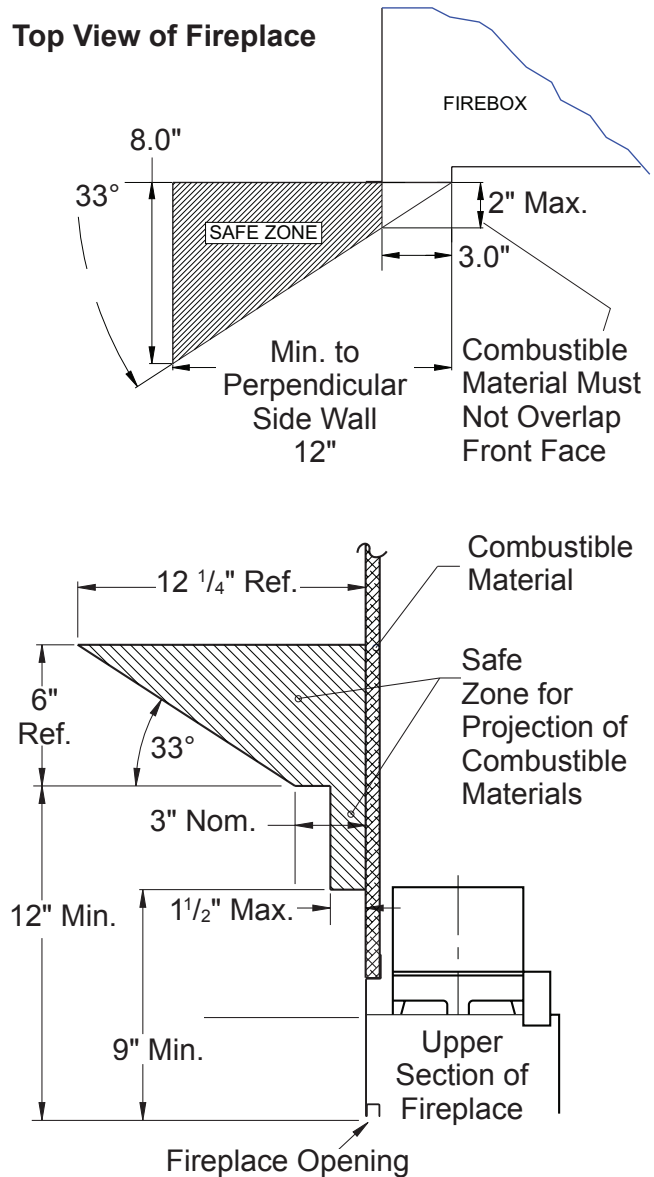

**Figure 3 - Hearth Extension**
Thermal conductivity "k" of materials can be obtained from the manufacturer or supplier of the noncombustible material. If the hearth extension is to be covered, use noncombustible material such as tile, slate, brick, concrete, metal, glass, marble, stone, etc. Provide a means to prevent the hearth extension from shifting and seal gap between the fireplace frame and hearth extension with a noncombustible material (see Figure 3).
**⚠ WARNING: Hearth extension is to be installed only as shown in Figure 3.**